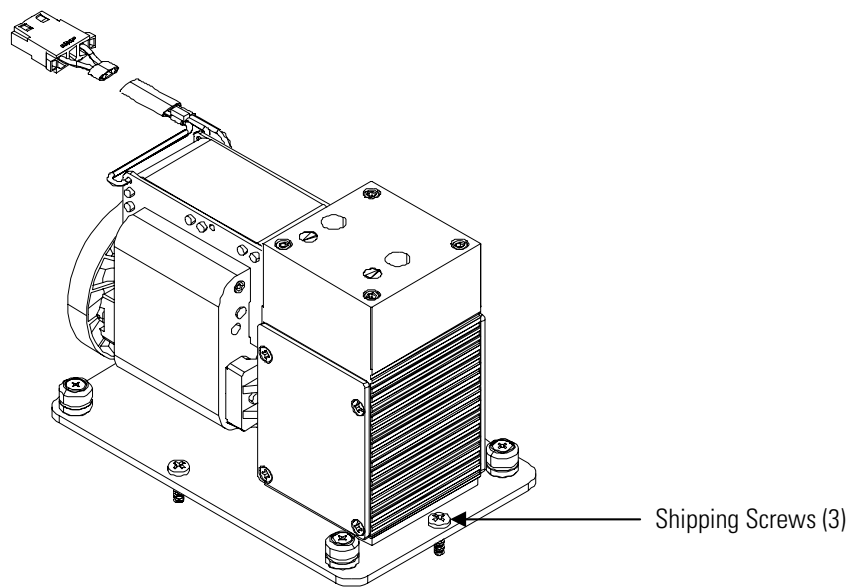

Figure 2-2. Removing the Shipping Screws
4. Remove the three shipping screws (Figure 2-2).